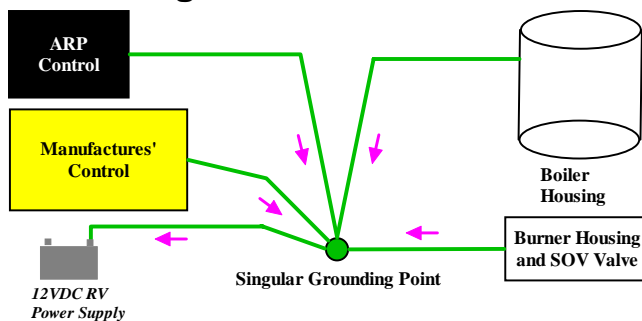

Fig. 10 Single Grounding Point
- Make the ground connections at a single point whenever possible. This helps to avoid ground loops that interfere with digital controls function. See Fig. 10.